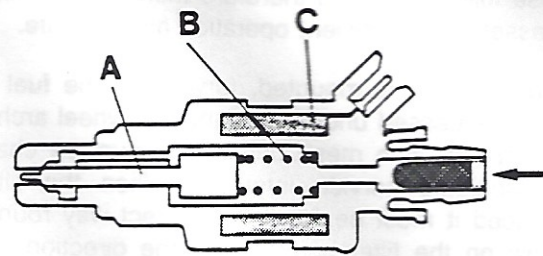

fig.34
Each injector contains a needle valve (A) as seen in Figure 34, which is held closed in the rest position by a coil spring (B). When the electrical solenoid (C) is energised, it lifts the needle valve to allow the fuel to pass; and when the solenoid is de-energised, the spring snaps the needle valve closed to cut-off the fuel flow. The tip of the needle is ground to a pintle shape to ensure efficient atomisation of the fuel spray into the inlet manifold.